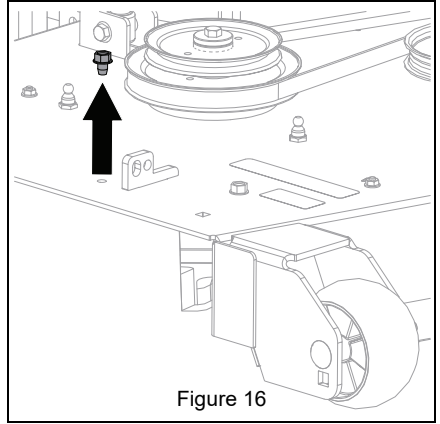

Figure 16
3. *52" and 60" decks only:* Remove tapping screw. Retain for use without bagger. See Figure 16.